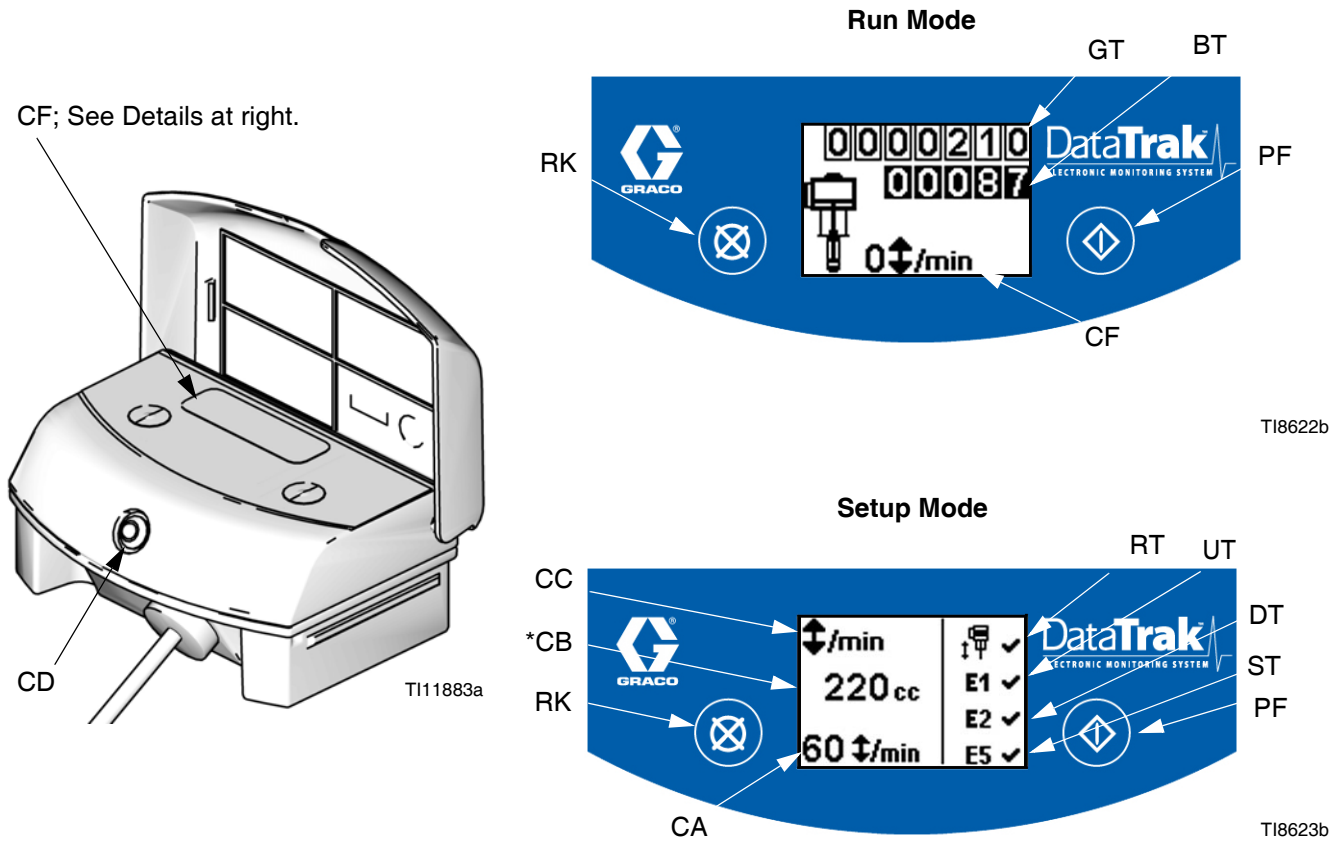

FIG. 31. DataTrak Controls and Indicators
NOTE: See FIG. 31. The display (Y) will turn off after 1 minute of inactivity in Run mode or 3 minutes in Setup mode. Press any key to wake up the display. DataTrak will continue to count cycles when display is off.
1. See FIG. 31. Press and hold  for 5 seconds until Setup menu appears.
1. See FIG. 31. If pump runaway occurs, the runaway solenoid will actuate, stopping the pump. The LED (CD) will flash and the display (CF) will indicate a runaway condition (see Table 1). The display will cycle through six instruction screens.
2. Runaway Screens 1 and 2: To reset the runaway solenoid, close the master air valve (AP). Wait for air to completely bleed off the air motor.
3. Runaway Screens 3 and 4: After the air is bled off, push the solenoid release button (J) down to reset the air valve. The button will pop back up when the air valve is repressurized.
NOTE: When runaway, E1, E2, and E5 error options are enabled, a ✓ will appear on the setup screen. See FIG. 31.
5. Open master air valve (AP) to restart pump.
NOTE: To disable runaway monitoring, go to setup mode and set runaway value (CA) to 0 (zero) or disable (RT)  (see FIG. 31).
1. See FIG. 31. To enter Prime/Flush mode, press any key to wake up the display, then press . The Prime/Flush symbol will appear in the display and
See FIG. 31. The last digit of the batch totalizer (BT) represents tenths of gallons or liters. To reset the totalizer, press any key to wake up the display, then press and hold  for 3 seconds.
See FIG. 31. The display (CF) will turn off after 1 minute of inactivity in Run mode or 3 minutes in Setup mode. Press any key to wake up the display.
DataTrak can diagnose several problems with the pump. When the monitor detects a problem, the LED (CD, See FIG. 31) will flash and a diagnostic code will appear on the display. See Table 1.